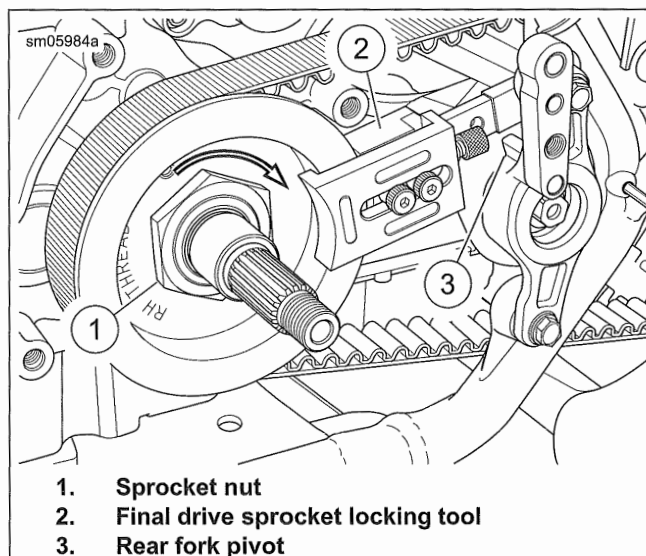

Figure 5-37. Sprocket Nut Installation
- See Figure 5-37. Install FINAL DRIVE SPROCKET LOCKING TOOL (PART NUMBER: HD-46282A) (2) resting against the rear fork pivot (3).